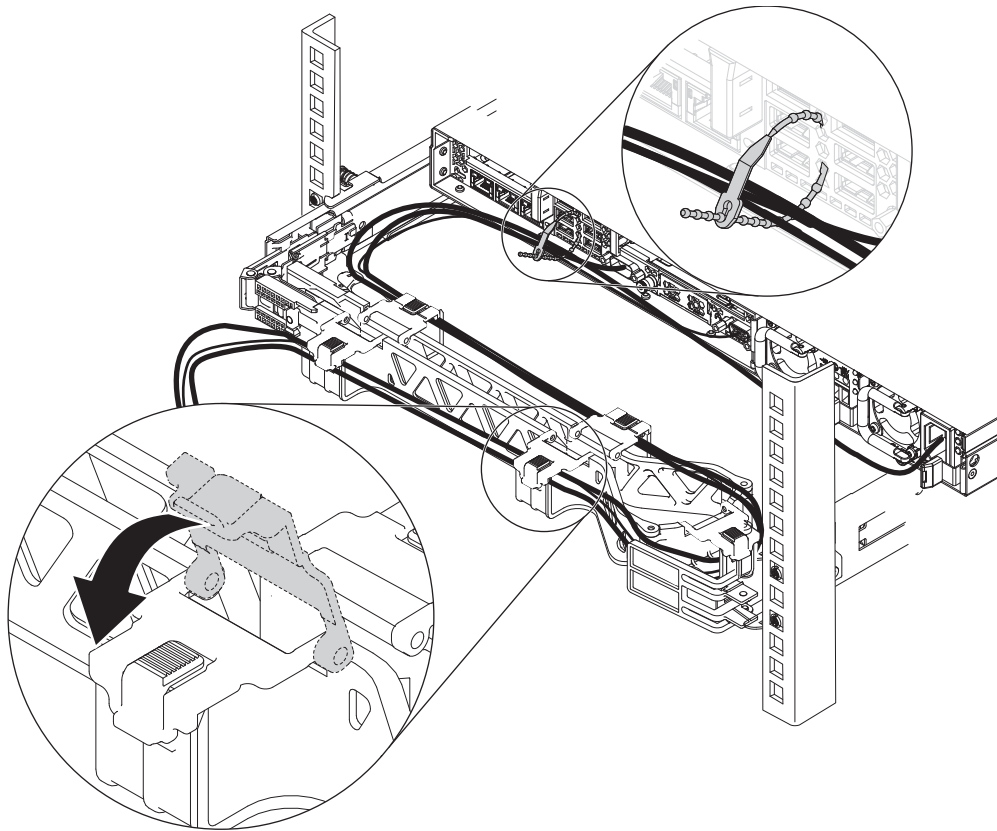

Figure 25. Connecting and routing the cables
6. Connect and route the cables, as shown in Figure 25 on page 31.